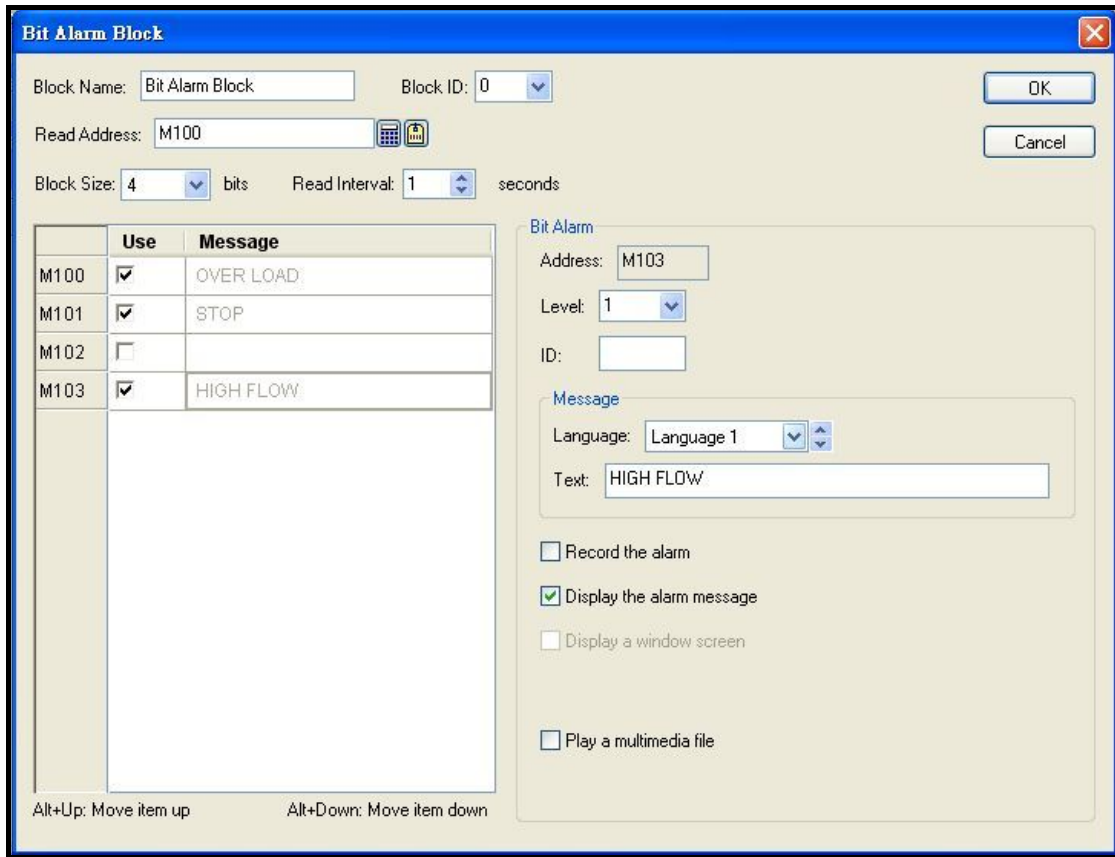

Figure2-40 Object properties dialogue \_bit alarm block
**Scatter Chart** : The HMI reads a series of value from PLC registers and transforms them to a dual axis chart on the screen as shown in figure 2-40. A scatter chart may have at most 8 curves.